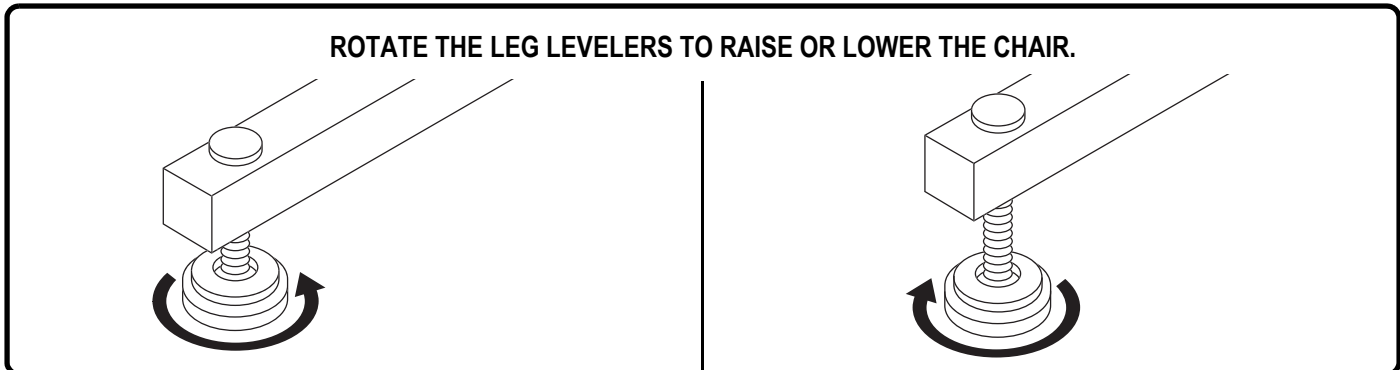

Figure 3.2 Leg Levelers
**Leg Levelers:** Manually rotate up or down in order to stabilize the chair before use (**Fig. 3.2**).
2. Adjust the leg levelers to stabilize the lift chair (**Fig. 3.2**).